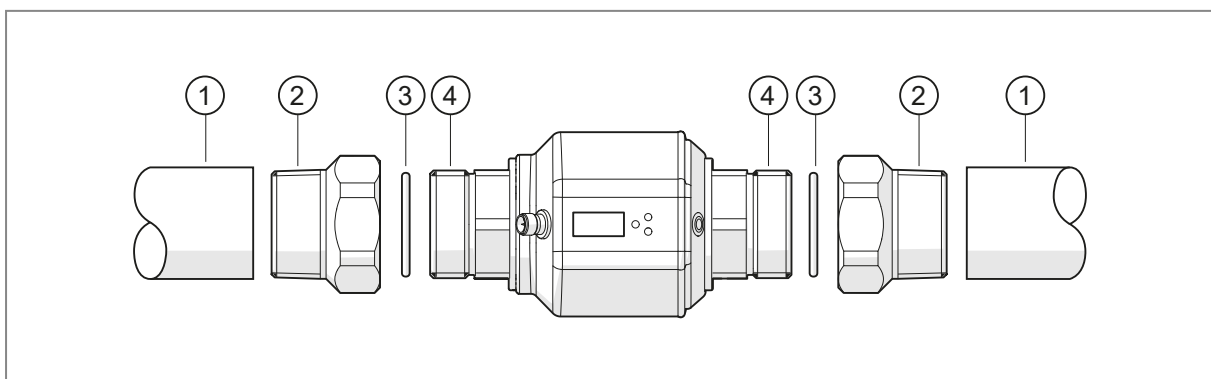

Fig. 1: Process connection for devices with G-thread
- ▶ To ensure best possible empty pipe detection, install the device according to figure 1.